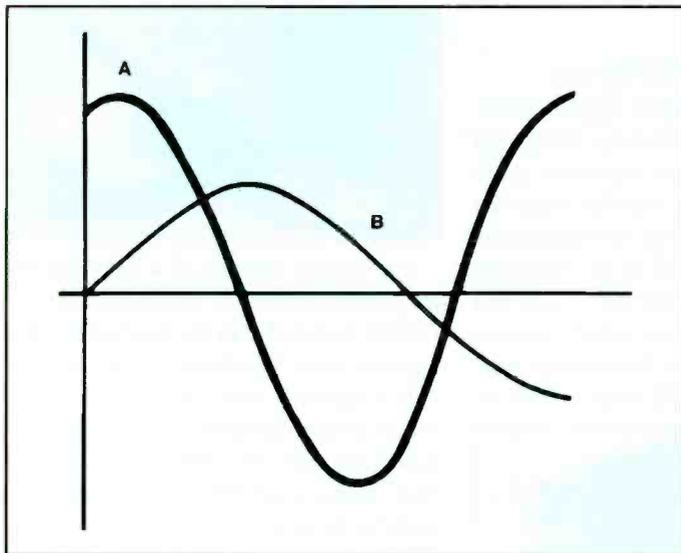

Figure 1
Figure 1. Understanding the theory of operation of the television vertical deflection circuit can help in troubleshooting when the necessary service literature is not available.
Think of the vertical deflection circuit as a one note audio amplifier operating near 60Hz, and brought up to exact frequency by a synchronizing signal (Figure 1). The yoke reflects back a load impedance similar to that of a speaker voice coil. Both circuit applications depend on feedback to cancel distortion and to maintain linearity. The value of the coupling capacitor is selected for the maximum power transfer. The principal difference between the audio amplifier and the vertical deflection circuit is that the input for the one is the frequency range for audio and the input of the other is the retrace pulse for TV.
3. Refer to Figure 1. Which of the fol-